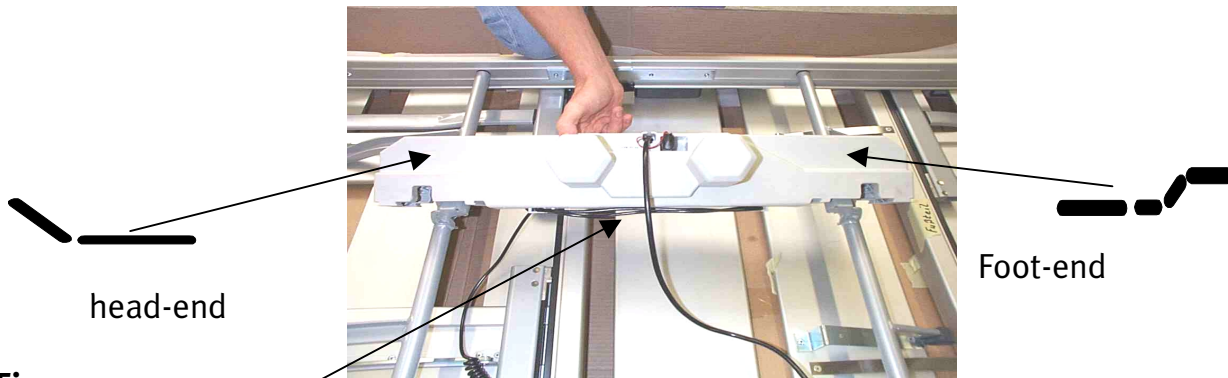

Figure 12
- The head/foot section identification mark or the symbols on the OKIMAT casing (see arrows, Figure 12) must coincide with the identification mark on the mattress-frame (head section to head section, foot section to foot section).